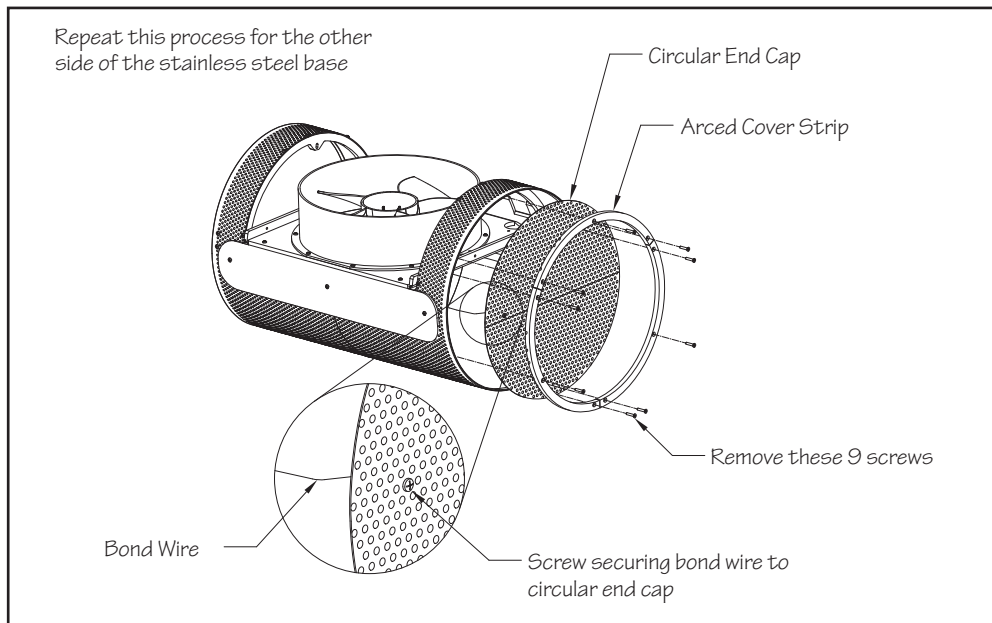

Fig. 6.1
- 6.2 Take care when handling or working with any of the stainless steel components of the swim unit. The ends can be sharp. The first step is to remove the two circular end caps from each side of the cylindrical base. There are 3 arced cover strips around the perimeter of the end cap. Unthread the nine screws that secure the cover strips (3 screws per cover strip). There will be a stainless steel wire connecting the end cap to the base. The wire can be disconnected to make assembly of the unit easier. If disconnected, the wire must be re-attached when assembled. Repeat this step for the other side of the stainless steel base. Carefully set each end cap aside (Fig 6.1).